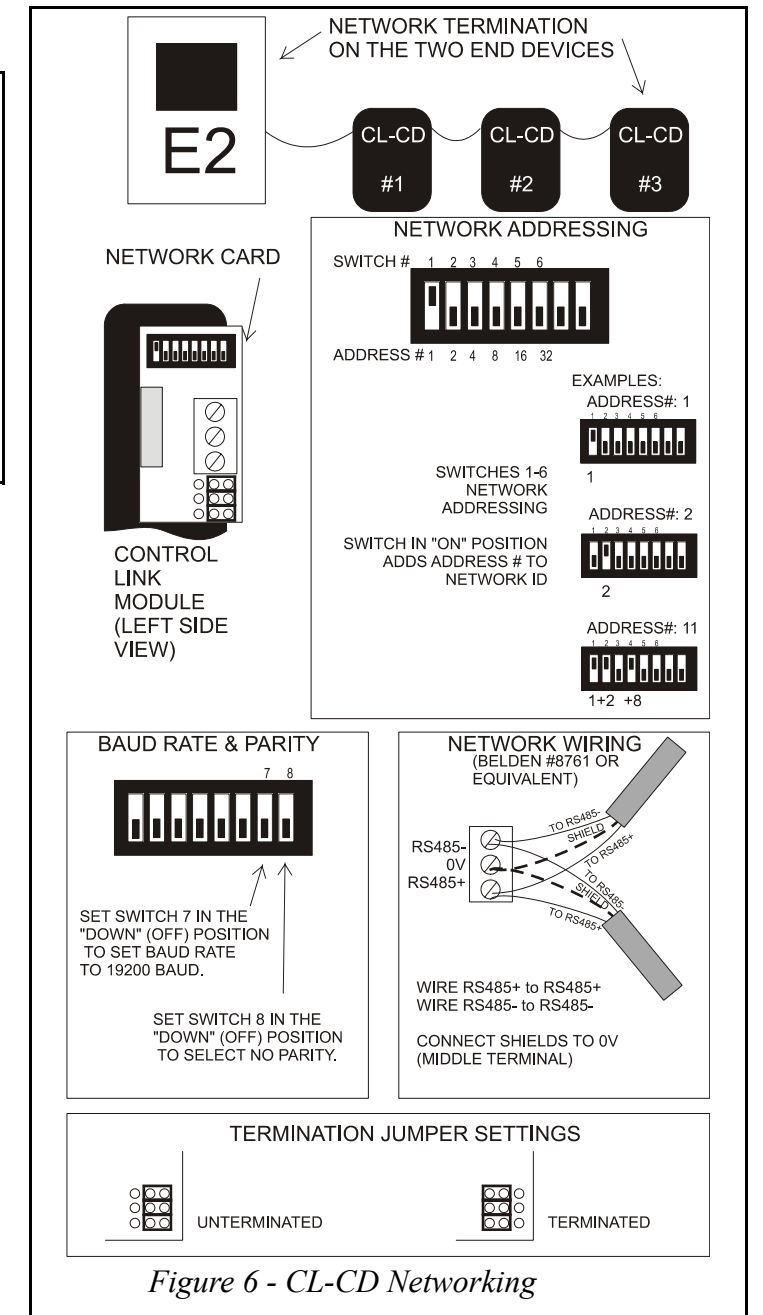

Figure 6 - CL-CD Networking
CL-CDs must be networked together in a daisy-chain configuration (all CD's networked in series from the E2, and terminated at the two end devices). No splits or "star configurations" are allowed. The network cable must be Belden #8761 or equivalent. Observe network polarity, wiring RS485+ to RS485+, 0V to 0V, and RS485- to RS485- (see Figure 6).
The devices at both ends of the daisy chain must be terminated using the network termination jumpers. On the CL-CD network card, these are located below the network connector. To terminate a device, set all three termination jumpers to the LEFT position (i.e. toward the rear of the module). To unterminate a device, set all three jumpers to the RIGHT position (i.e. toward the front of the module). Refer to Figure 6.
Each CL-CD must have a unique network address. The network address is set by switches 1-6 of the DIP switch bank on the network card. Switches 1-6 correspond to binary digits of the network address (1, 2, 4, 8, 16, and 32 respectively). Each switch in the UP (ON) position adds the corresponding value to the network address. CL-CDs should be numbered in order starting with unit #1 (see Figure 6).